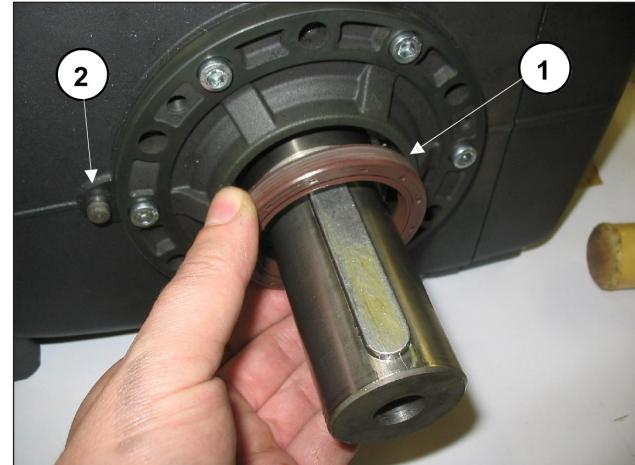

Fig. 33
To modify the version, fitting the reduction unit where it has not been contemplated, you need to remove the shaft oil seal (Fig. 33, pos. ①) and insert on the casing the reduction gearbox reference pin Ø8 (Fig. 33, pos. ②).
Then proceed with the operations specified in par. 2.1.5. When modifying the version, removing the reduction unit where it has been contemplated, you need to insert the shaft oil seal ring in its seat on the side cover using the tool code 27904800 (Fig. 33, pos. ①).